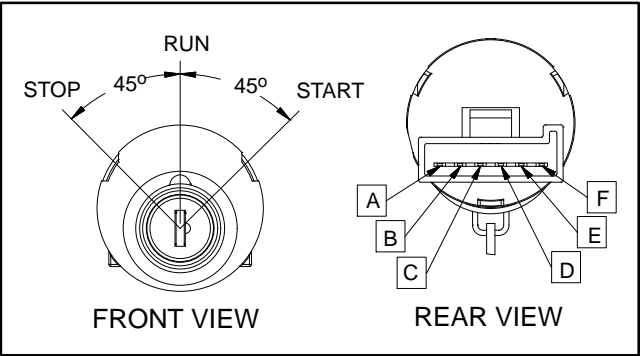

Figure 22
The ignition (key) switch is located on the control panel and has three (3) positions: STOP, RUN and START (Fig. 22). The Toro Electronic Controller (TEC) monitors the operation of the ignition switch.
5. The ignition switch terminals are identified in Figure 22 and the circuitry of the switch is shown in the chart in Figure 23. With the use of a multimeter (ohms setting), the switch functions can be tested to determine whether continuity exists between the various terminals for each switch position. Verify continuity between switch terminals.